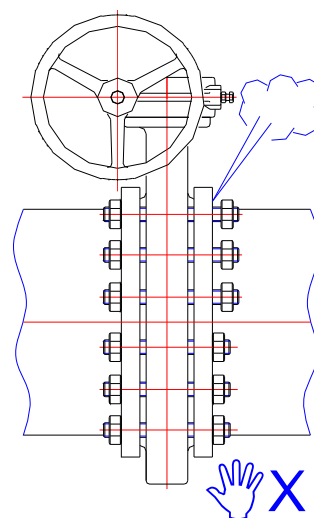

Fig.29
- 17.3.2 Do not loose flange bolts, valve bolts when valve is on service. (Fig.29)